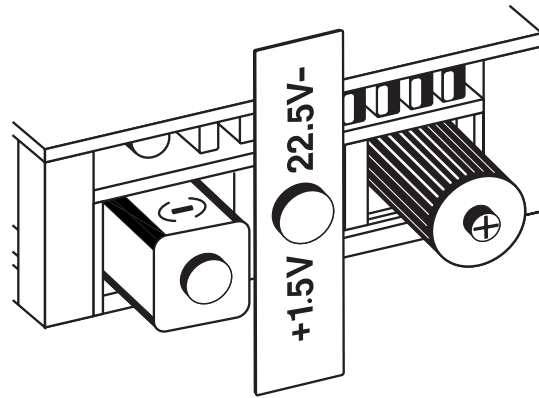

Figure 6-1: Battery Replacement
- C. Install new batteries as shown in Figure 6-1.